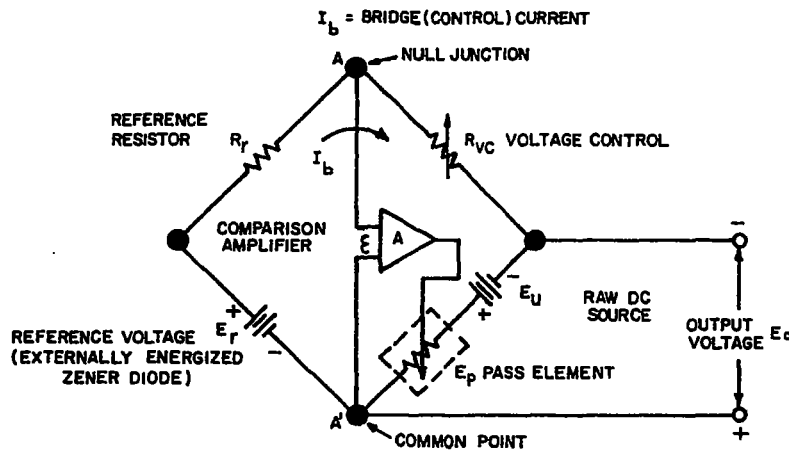

FIG. 3-4 KEPKO POWER SUPPLY AND COMPARISON BRIDGE CIRCUIT.
3-9 GENERAL. Electrically, the power supply consists of the raw d-c source ( $E_U$ ), the pass element ( $E_p$ ), the d-c error amplifier (A) and a comparison circuit which resembles a four-arm electrical bridge. (Refer to FIG. 3-4). The elements of the bridge are arranged to produce a virtual zero at the amplifier input when the bridge circuit is at balance ( $V_{AA'} = 0$ , when  $E_r/R_r = E_o/R_{VC}$ ). Any tendency for the output voltage to change in relation to the reference voltage ( $E_r$ ) creates an error signal ( $\epsilon$ ) which, amplified by the d-c error amplifier, tends to correct the output voltage towards restoration of bridge balance.